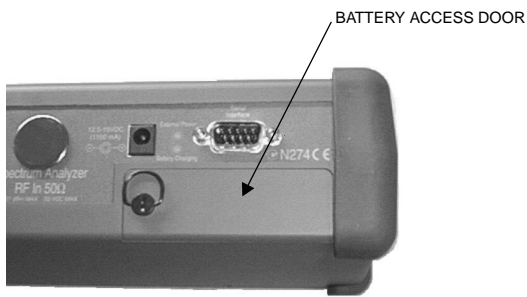

Figure 4. Battery Access Door Location
1. With the Spectrum Analyzer standing upright on a stable surface, locate the battery access door (Figure 4).